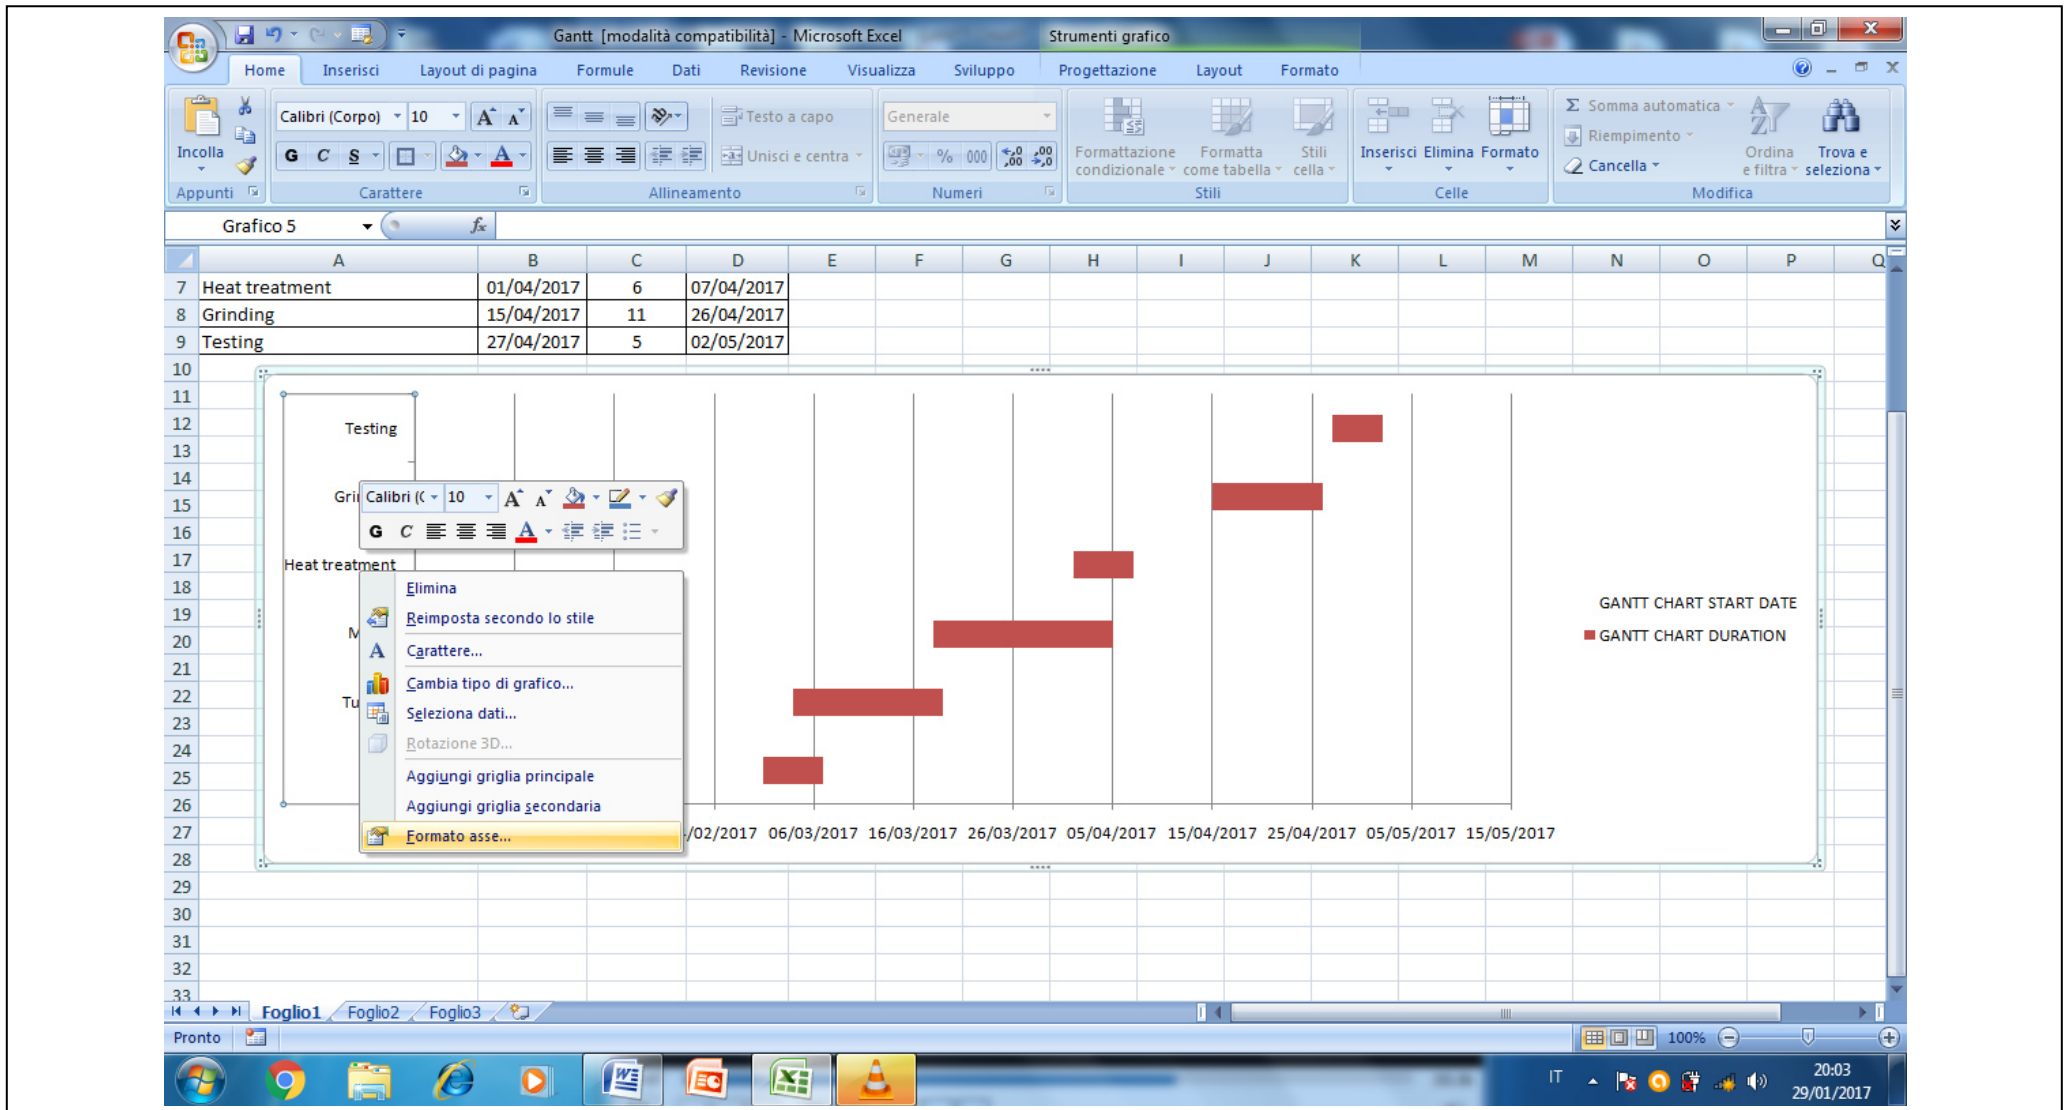

Fig.11-Axis format
10) To complete the chart, click with the right button on the right series and choose the “axis format” option (Fig.11)